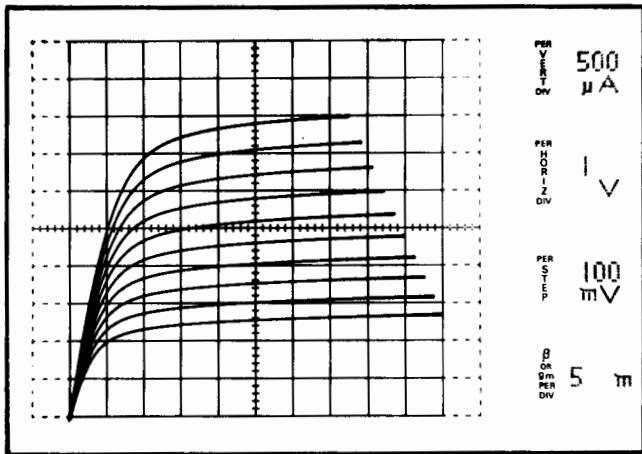

Fig. 2-17. Display of FET common-source characteristic curves:  $I_D$  vs.  $V_{DS}$  for 10 steps of gate voltage at 0.05 volts/step.
applied to the gate (see Fig. 2-17). Since the steps applied to the gate are positive-going, the curves displayed represent enhancement mode operation of the FET. (Press the SINGLE STEP FAMILY button to locate the curve obtained with zero volts on the gate.)
67. Press the POLARITY INVERT button and note the display of the depletion mode of operation of the FET (see Fig. 2-17). (Press SINGLE STEP FAMILY button for zero bias curve.)